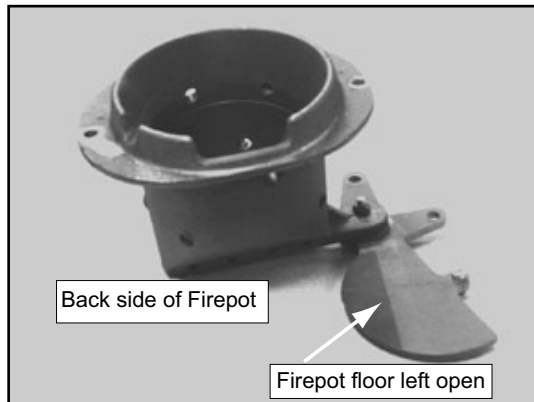

Figure 27.1 - DO NOT LEAVE FIREPOT FLOOR OPEN
- c. The firepot floor plate must be fully closed when finished. **See Figure 27.1 on page 27.**